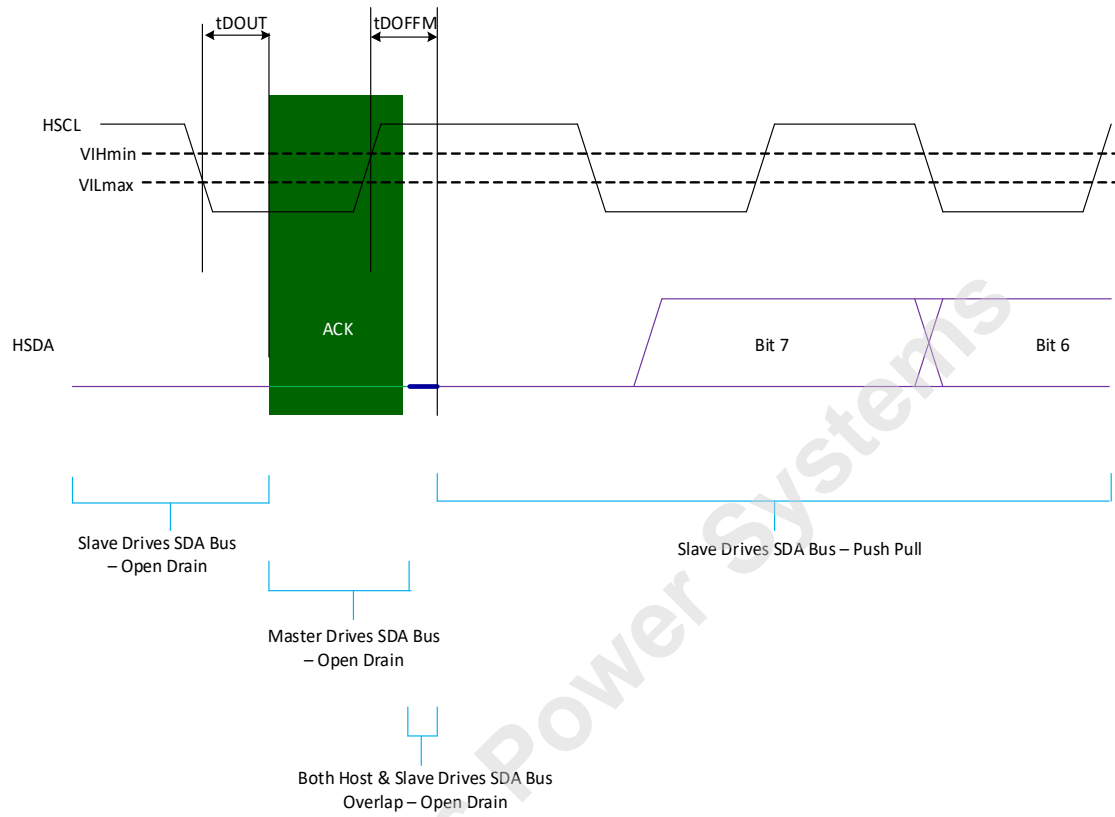

Figure 3 — Master Open Drain (ACK) to Slave Push Pull Hand Off Operation
1. See Figure 3 to see how the transition occurs from Host Open Drain (ACK) to Slave Push Pull Operation (1st bit of MDB Byte bit [7]).